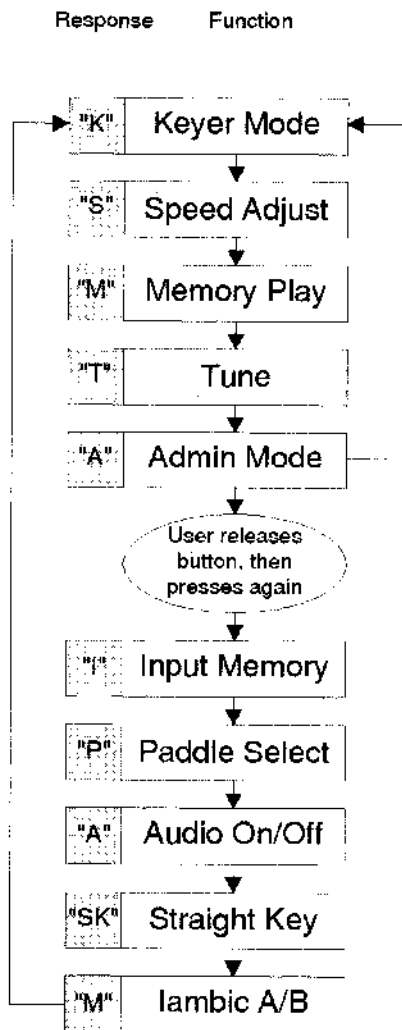

Fig. 1
Figure 1 is the circuit diagram of the redesigned 80 M receiver. The main changes are the front end filter, crystal and audio filter inductor and capacitor values. The main tuning capacitor is an air spaced 140 pF variable capacitor in parallel with a 1100 pF polystyrene. I used the MC3362 varactor diode as fine tuning. Readers might like to wire in a more sophisticated RIT system with relay or diode switching. I found my circuit simple enough to use and leave it to
The circuit in Fig. 1 is a modified version of the ARRL circuit in Ref. 1. The circuit of Fig. 2 is based on the ARRL circuit of Ref. 1 and the Drew Diamond circuit of Ref. 2.
Figure 1 shows the command sequence for the TiCK-2. Note that if you press and hold the push-button, the chip cycles from keyer mode through (S) speed adjust, (M) memory play, (T) tune, (A) admin mode and then back to the keyer. However, if the push-button is released and pressed again while in admin mode, the chip will cycle through a subset of commands which include (I) input memory, (P) paddle select, (A) audio on/off, (SK) straight key, (M) iambic mode A or B and finally back to the keyer mode. The TiCK manual describes these commands in greater detail.